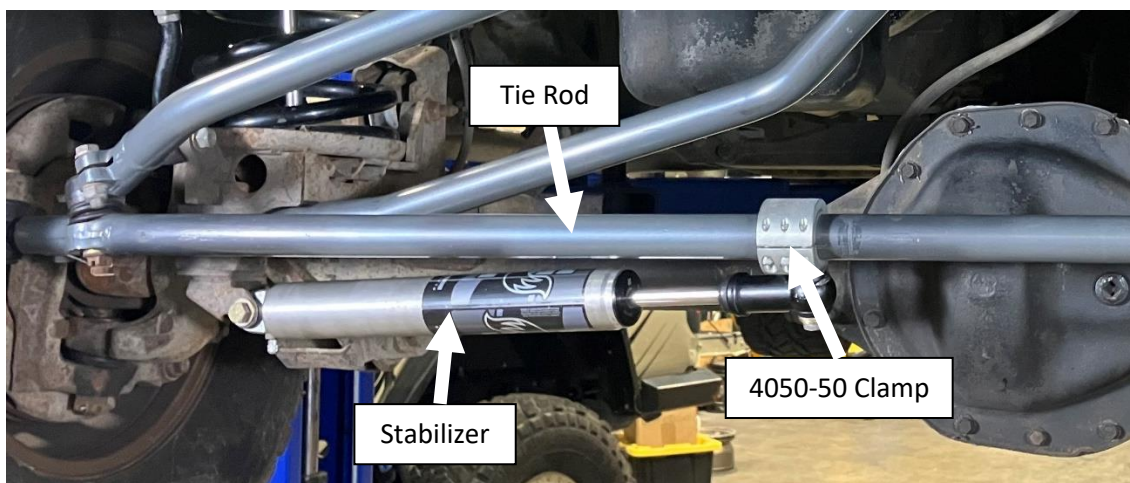

Figure 13. Steering Stabilizer Shown Mounted to 4050-50 Clamp
25. Attach the free end of the stabilizer to the 4050-50 clamp as shown. Install the 1/2-20 UNF x 2" long bolt and two washers. Do not fully tighten bolt at this time. See **Figure 13**.